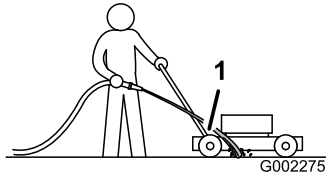

Figure 22
3. Hold the running garden hose at handle level and direct the water to flow on the ground just in front of the right rear wheel (Figure 22).